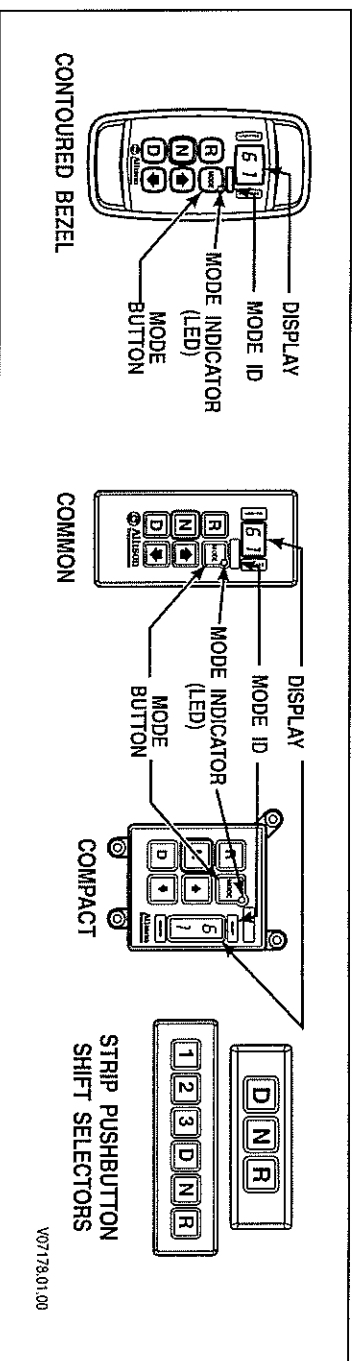

Figure 1-4. Typical Pushbutton Shift Selectors
A. Pushbutton Shift Selector (Figure 1-4)
The strip pushbutton shift selector has either three or six range selection positions as shown in Figure 1-4. When a strip pushbutton shift selector is used, diagnostic information must be obtained by using the Allison DOCTM For PC-Service Tool, or a customer-furnished remote display.